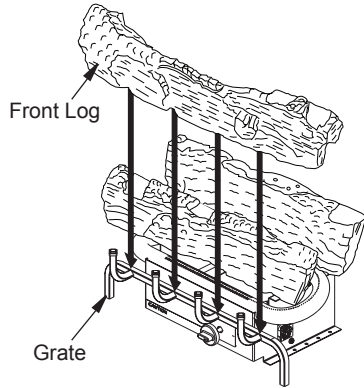

Figure 18 - Installing Front Log
3. Place front log onto grate as shown in Figure 18. Front log has cut outs for the fingers of the grate to fit into.